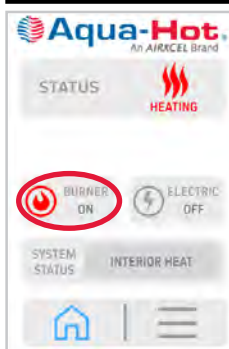

Figure 98
**NOTE:** The fuel lines can be fully primed by turning the burner ON/OFF via the LCD screen (Figure 98) without having to direct power and pulse the fuel pump. Once the burner starts and cycles, and any Ignition Failures/Faults are clear, the burner is ready for operation.
5. Turn the burner on at the screen (see Figure 98). The burner should cycle on because of the primed fuel lines.